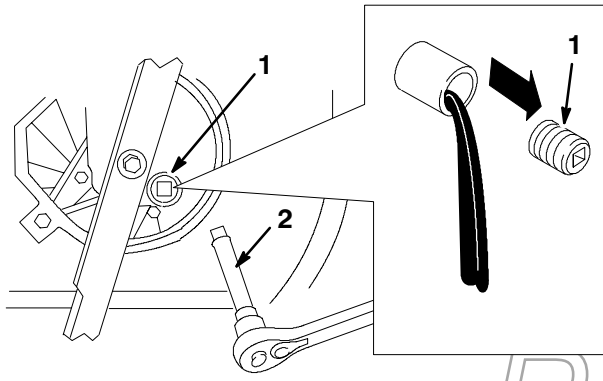

Figure 20
5. Remove the oil drain plug, return the lawn mower to its operating position, and allow the oil to drain into the drain pan (Fig 20).